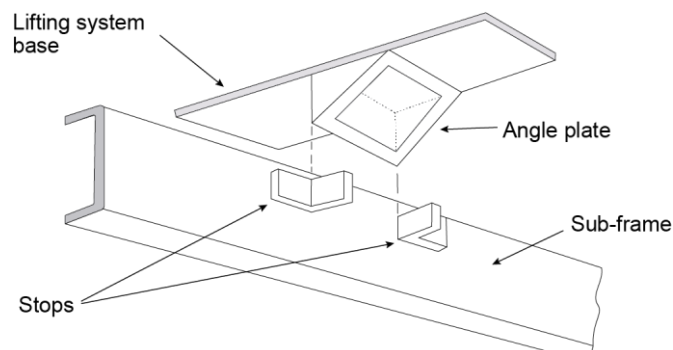

Figure 5: Example of locating stops on sub-frame
- Prevent longitudinal and transverse movement between the VMLS and sub-frame, for example by attaching blocks, or stops (see example in Figure 5).